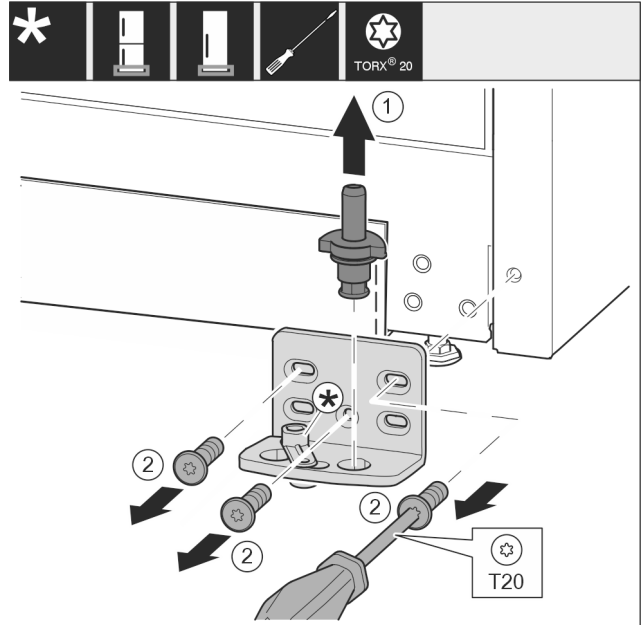

Fig. 8
- ▶ Lift the bearing pin completely upward and pull it out. Fig. 8 (1)
- ▶ Take out the screws with a T20 screwdriver and take off the bearing bracket. Fig. 8 (2)